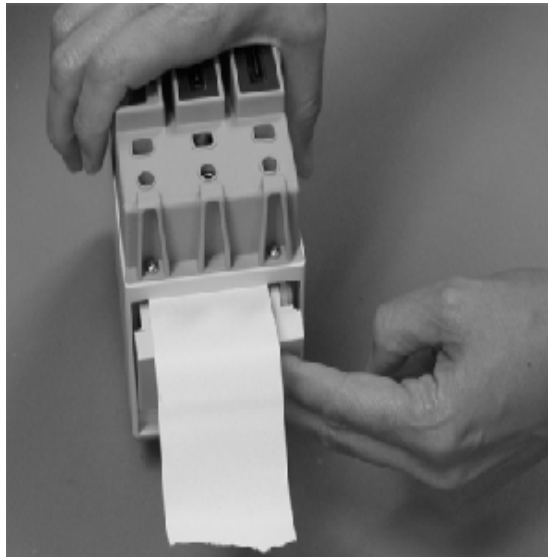

FIGURE 4-45
4. Close the recorder door (as shown in FIGURE 4-45).